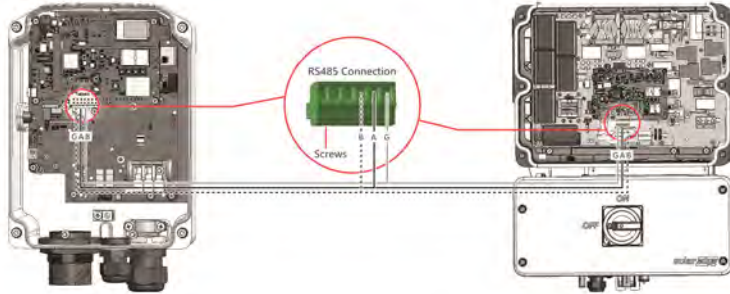

Figure 9: RS485 connection between the Single Phase Inverter with HD-Wave Technology and the Smart EV Charger
- c. Loosen the screws of the connector and connect the Smart EV Charger wires according to the connector label B to B, A to A, and G to G, see *Figure 9*. The wire for G is not from the same twisted pair as A or B.